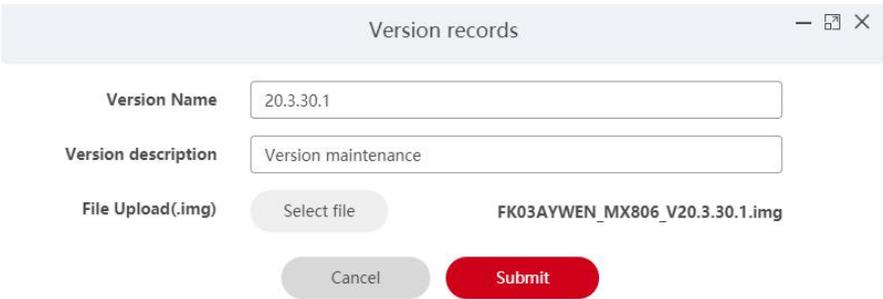

Figure 5-26
Step 2: Click "Add" to enter the version records interface, as shown in Figure 5-26 below.